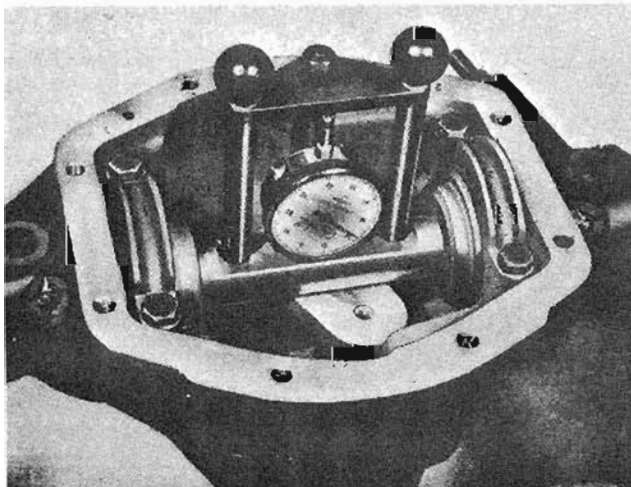
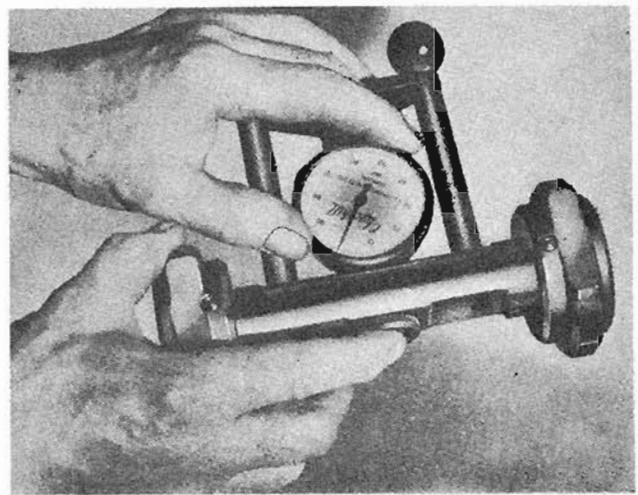

Fig. 19 Pinion setting gauge, Churchill Tool No. M84 assembled to axle centre casing.
Fig. 20 Utilising the " button ", the Pinion Setting Gauge (Churchill Tool No. M84) is set to zero.
- (iii) Install the pinion setting gauge in the axle centre casing (Fig. 19), (after zeroing the dial with a ground button held firmly on the gauge plunger, Fig.20) and tighten bearing caps. This gauge is used to assess the shim thickness which